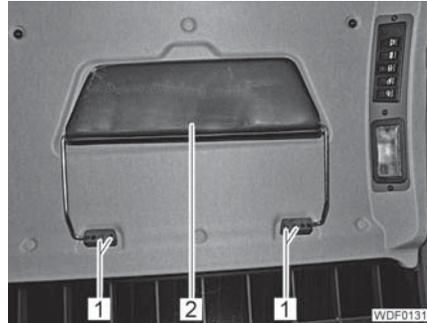

Fig. 369 Sun visor
- Unscrew the 4 screws (Fig. 369,1).
- Remove the sun visor (Fig. 369,2).
- Position the sun visor (Fig. 369,2).
- Screw in and tighten the 4 screws (Fig. 369,1).